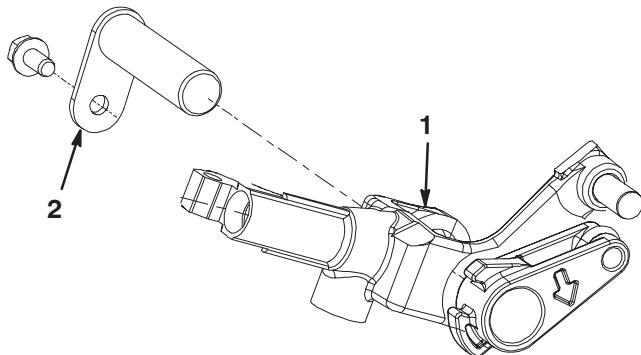

Figure 7
13. Remove the screw securing the reel lever pivot pin to the control bracket (Fig. 7).
14. Remove the reel lever pivot pin and remove the traction/ reel control lever assembly from the control bracket (Fig. 7).
17. Mount the traction/ reel control lever assembly to the control bracket with the reel lever pivot pin (Fig. 7).